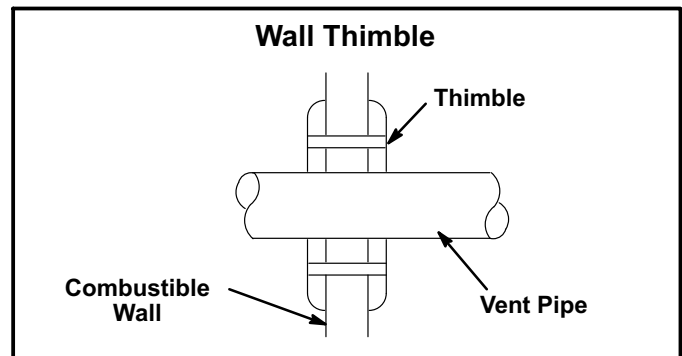

Figure 9
- 8 - The vent may pass through a wall where provisions have been made for a thimble as specified in the Standards of the National Board of Fire Underwriters. See figure 9.